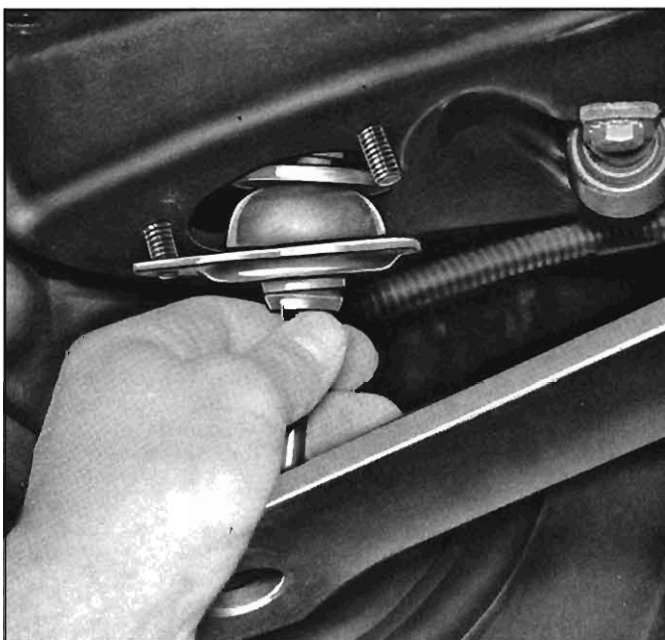

Fig. 3-4—Removing Link Assembly
2. Remove the jackstand. Then, if it is necessary to remove the link bolt, remove the spring link bolt bracket attaching nuts and remove the bracket, bolt, cushion and retainer (fig. 3-4). This operation, unless the link bolt is damaged, will seldom be necessary.